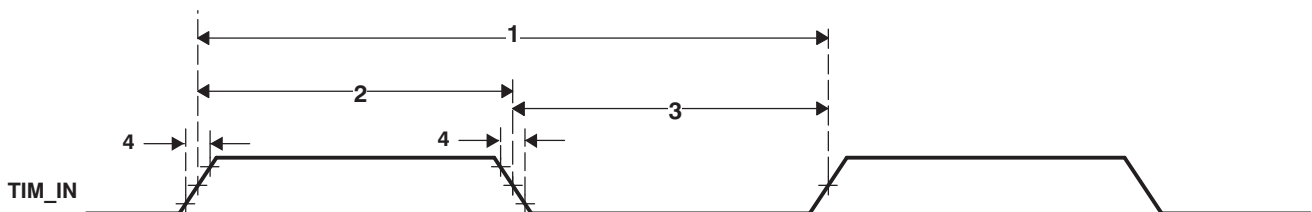

Figure 5-46. Timer Input Timing
Table 5-45. Timing Requirements for Timer Input(1) (2) (3) (see Figure 5-46)